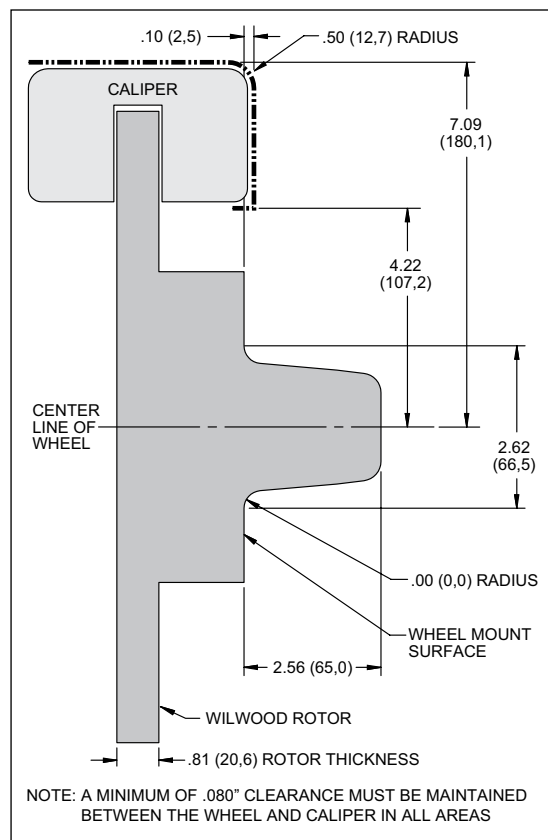

Figure 2. Wheel Clearance Diagram
- Review the wheel clearance diagram (Figure 2, page 3) to verify that there is adequate clearance with the wheels you will be using with the installation.
- Verify wheel clearance, see Figure 2.